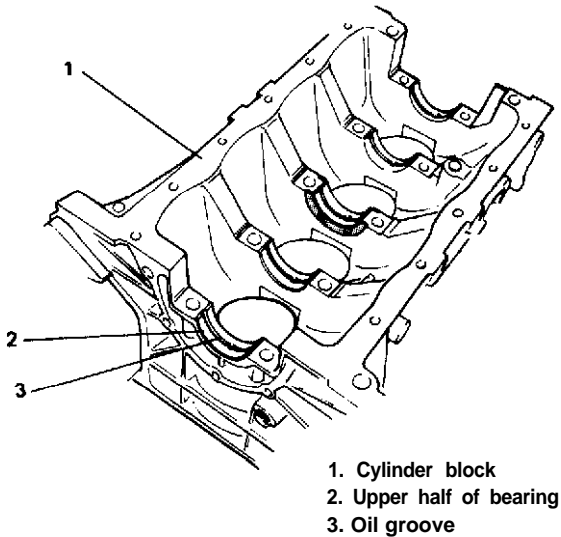

Fig. 3-6-1 Installing bearing half with oil groove
- ③ Press piston pin until line marked on driver handle is flush with flat surface of piston (Fig. 3-6-1 5).
- After installing 3 rings (1st, 2nd and oil rings), distribute their end gaps as shown in Fig. 3-6-1 7.